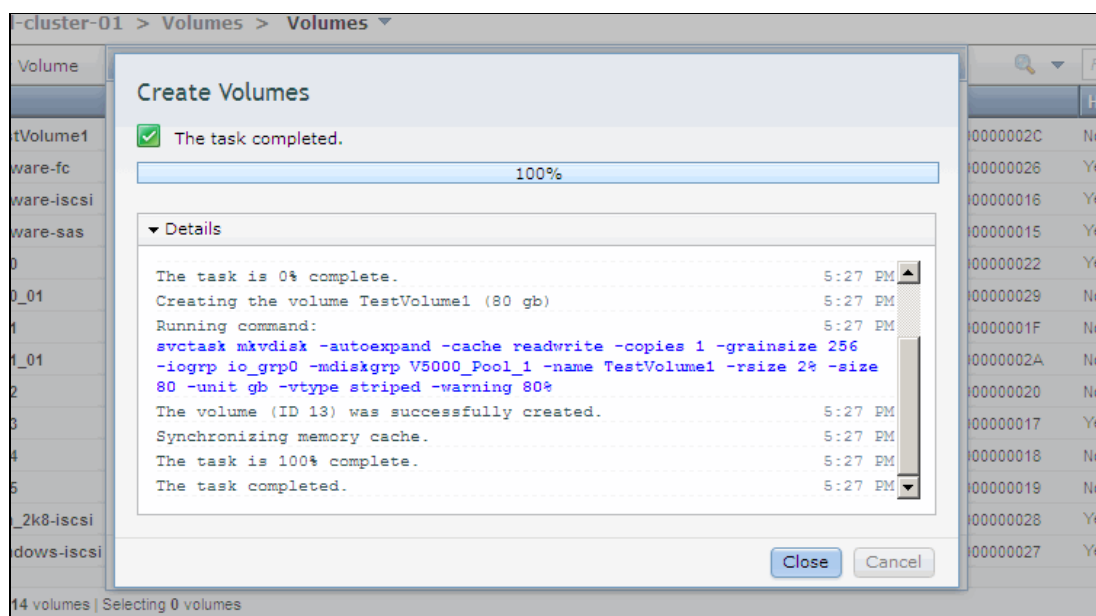

Figure 5-11 Thin volume creation complete
- Click **Create and Map to Host** to create and map the volume to a host, or click **Create** to complete the task and leave mapping the volume to a later stage. The volume is created, as shown in Figure 5-11.